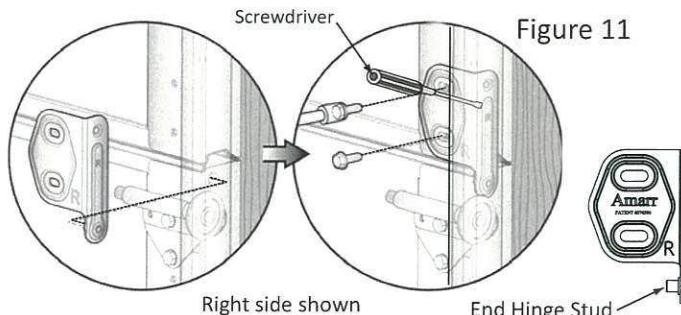

Figure 11
Fit the End Hinges between the track and the section. Align the End Hinge studs with the extruded holes in the edge of the end stiles and insert. Secure the hinge with (2) 1/4"x5/8" Universal Screws (Figure 11).
Note: Firmly hold the End Hinges in place with a screwdriver between the track and the hinge, as you tighten the screws (Figure 11).
Fit the End Hinges between the track and the section. Align the End Hinge studs with the extruded holes in the edge of the end stiles and insert. Secure the hinge with (2) 1/4"x5/8" Universal Screws (Page 4, Step 19, Figure 11). Use holes 19 & 23 for single and double layer doors. Use holes 14 & 18 for triple layer doors.